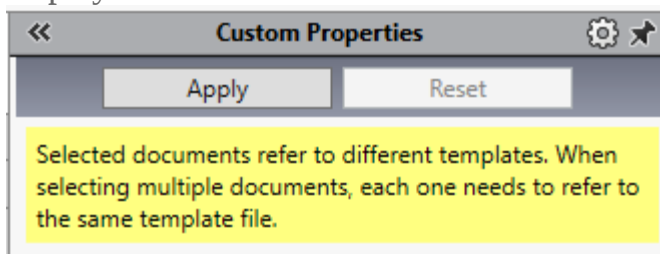

Figure 5. The most frustrating error message when using property tabs.
- When components have data that was previously input via property tabs using different templates—if they are selected simultaneously—the following error shown in Figure 5 is displayed: